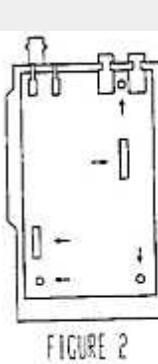

FIGURE 2
4. Disconnect the 2 flex cables and remove the 3 screws from the IF unit (Figure 2).
4. Disconnect the 2 flex cables and remove the 3 screws from the IF unit (figure 2).